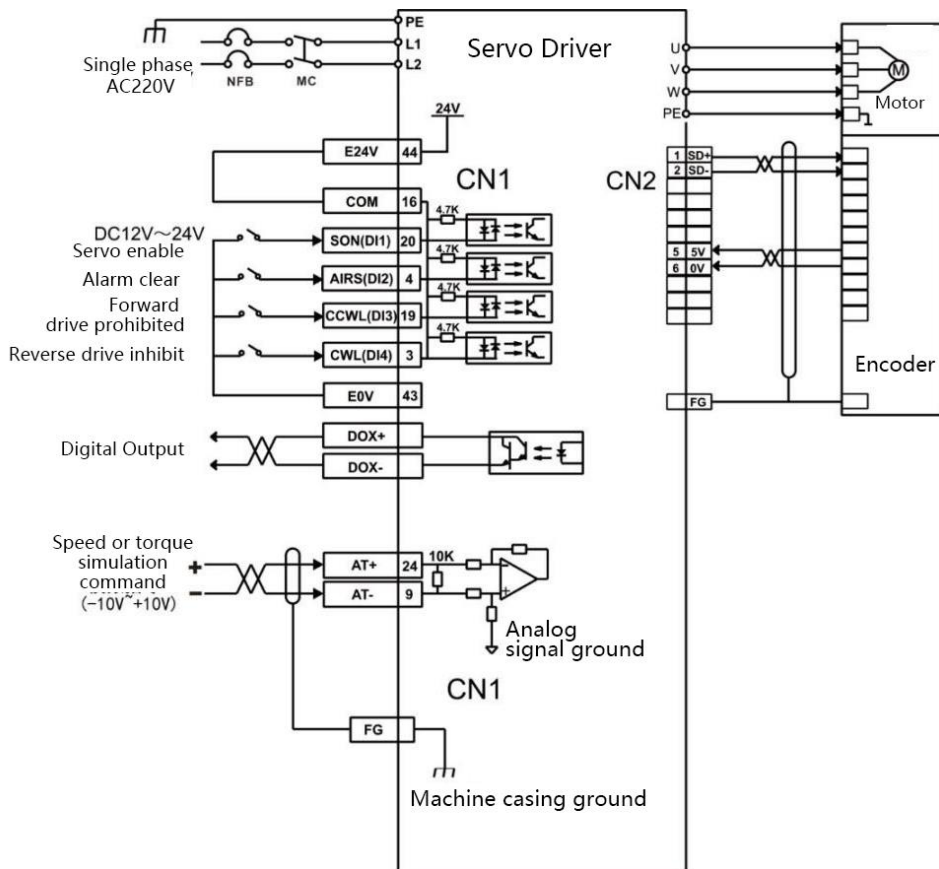

Figure 5.6 Wiring diagram of the torque mode
- 3) Refer to Figure 5.6 for wiring instructions to connect the required DI/DO signals in the CN1 terminal, such as servo enable, alarm clear, positioning completion signal, etc.